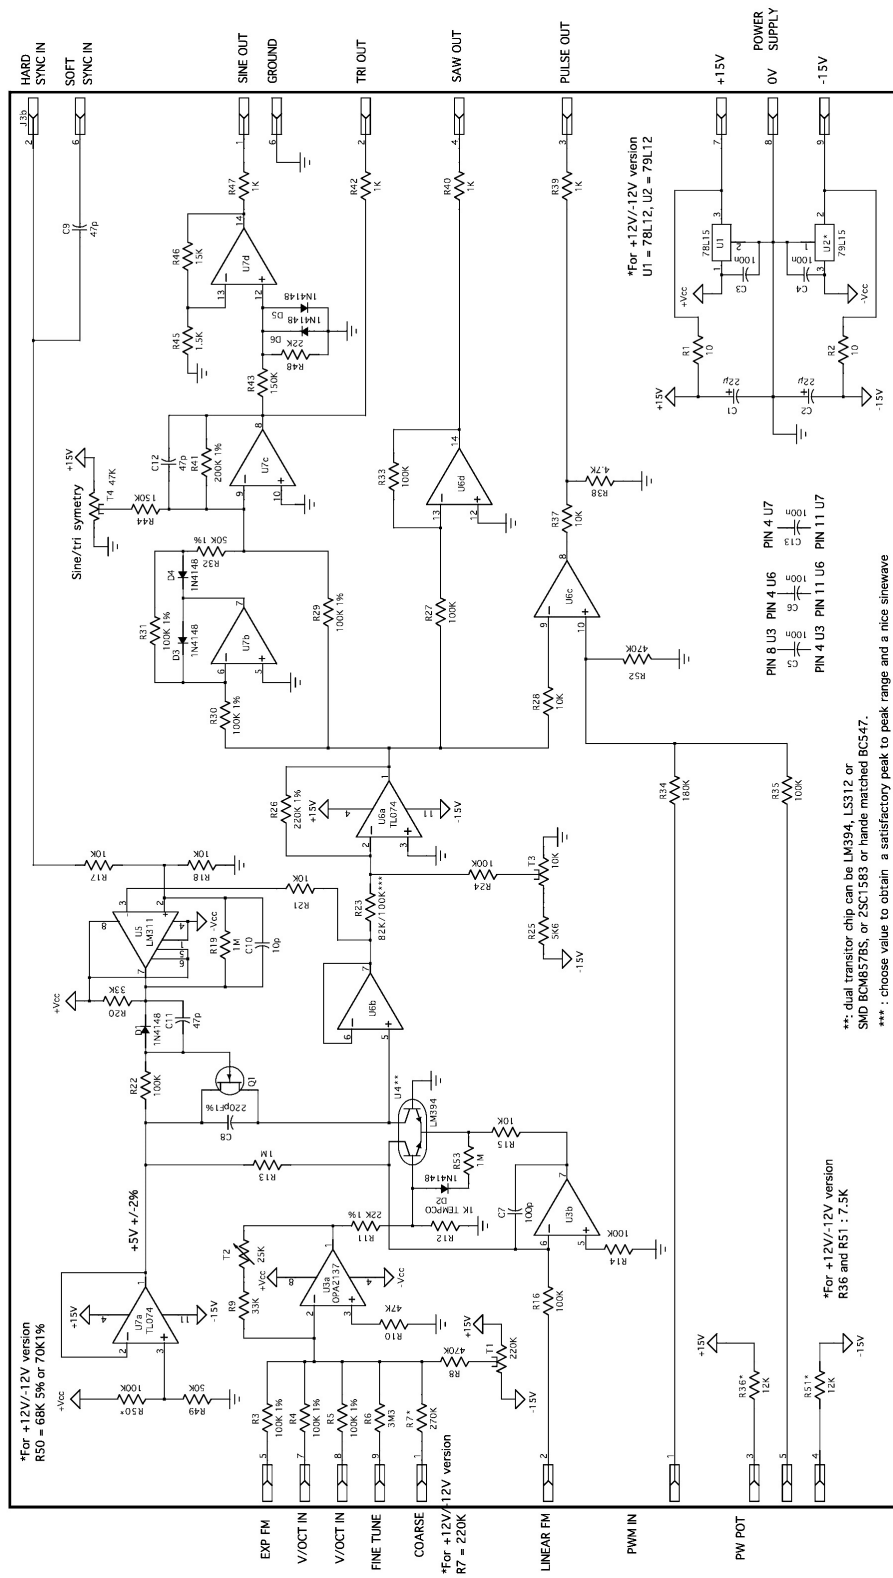

Figure 7: VCO of Yves Usson (YuSynth)
²Schematic in appendix - figure 7
¹⁰Schematic in appendix - figure 7
- Figure 7: <http://yusynth.net/Modular/Commun/VCO/new/VCO-V2.gif>, 19.10.2019.